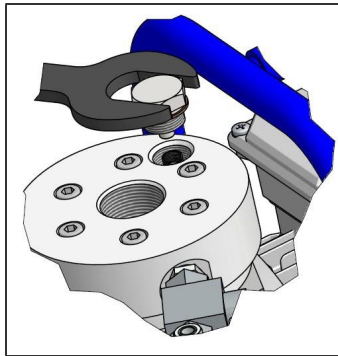

Fig.10.1.9
2. (Fig.10.1.9) Unscrew the screw from the valve block with an SW27 screw-wrench. Upon removal, make sure that the sealing disk is not lost.